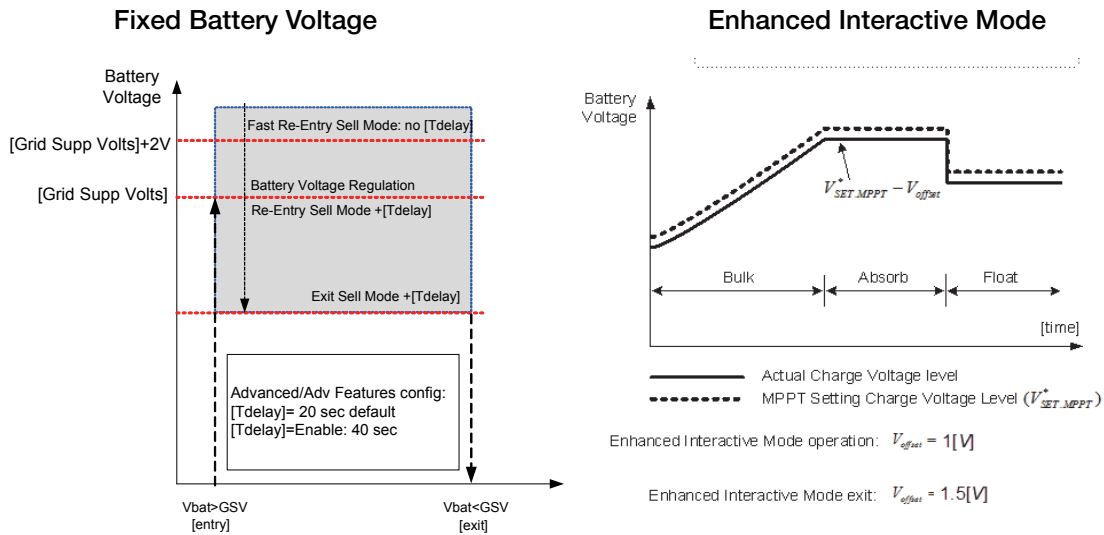

Figure 3-8 Grid-tie Sell Mode
Sell	<p>Turns sell mode on and off. When Sell is set to enabled, the Conext XW+ AC output is divided between powering loads and delivering power to the utility grid. Sell mode requires the battery voltage to be above Grid Supp Volts. All configurations must comply with local and national electrical codes. The renewable energy from the battery is exported to the grid as long as the battery voltage is greater than or equal to Grid Supp Volts. See Figure 3-8 on page 3–30.</p> <ul style="list-style-type: none"> <li>• Grid-tie entry condition: battery voltage is greater than Grid Supp Volts.</li> <li>• Grid-tie exit condition: battery voltage is lower than Grid Supp Volts less 0.5 V.</li> </ul> <p>There is a time delay associated with the entry and exit conditions. The default is 20 seconds. The delay can be extended to 40 seconds if the battery voltage is not very stable (Figure 3-3, “Basic and Advanced Settings” on page 3–7 and Table 3-12, “Advanced Features Menu” on page 3–49). This delay helps to avoid sell power fluctuations when the battery voltage fluctuates.</p> <p>There is an exception. The delay is zero when the battery voltage suddenly changes to 2 V above Grid Supp Volts. For example, when a wind turbine or micro-hydro is connected to a small battery bank which may create a sudden change on the battery voltage. In this case the system will immediately respond by converting the energy from the battery to grid.</p>
**Grid Supp Volts** is set 0.5 volts below the voltage provided by the DC source (typically the float voltage setting of the DC source or charge controller). See Figure 3-8, “Grid-tie Sell Mode” on page 3–30. Schneider does not provide support for these energy sources.